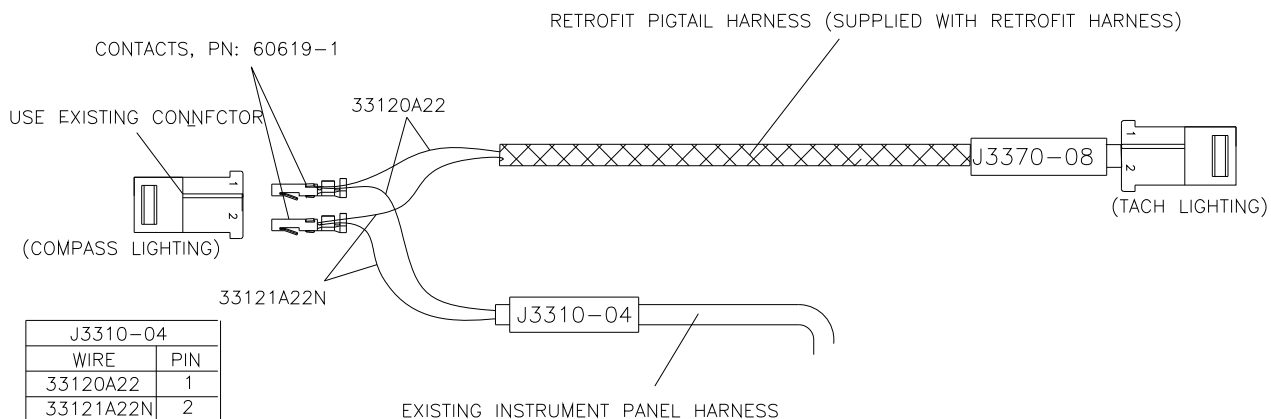

Figure 7
- 10.13 Crimp retrofit harness pigtail (J3370-08) with J3310-04 wires together as shown in Figure 7.